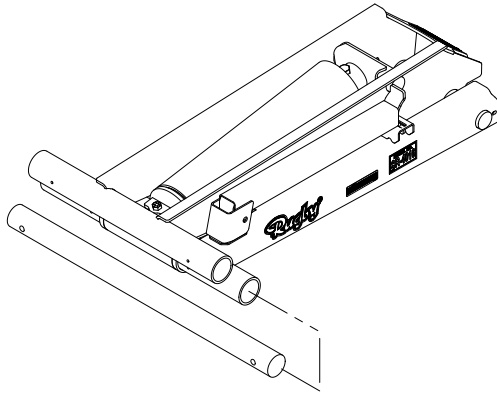

Figure 3: Saddle Tube Location
1. Slide the saddle shaft into the lower tube of the hoist so that approximately 4 inches extend past the tube on each side. (Figure 3)